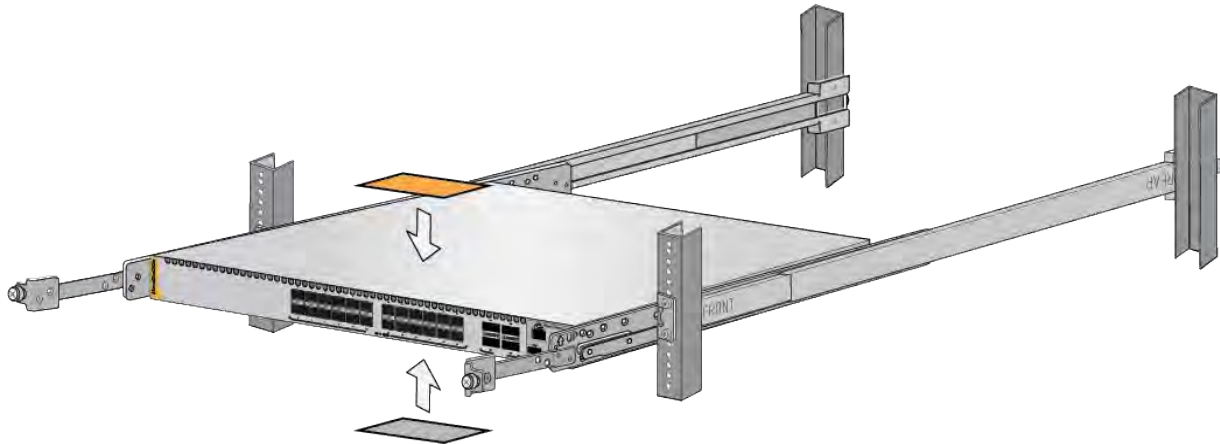

Figure 88. Affixing the Warning Labels
2. Affix the provided warning labels to the top and bottom of the switch, in locations immediately visible when removing the device from the rack. Refer to Figure 88 on page 218.